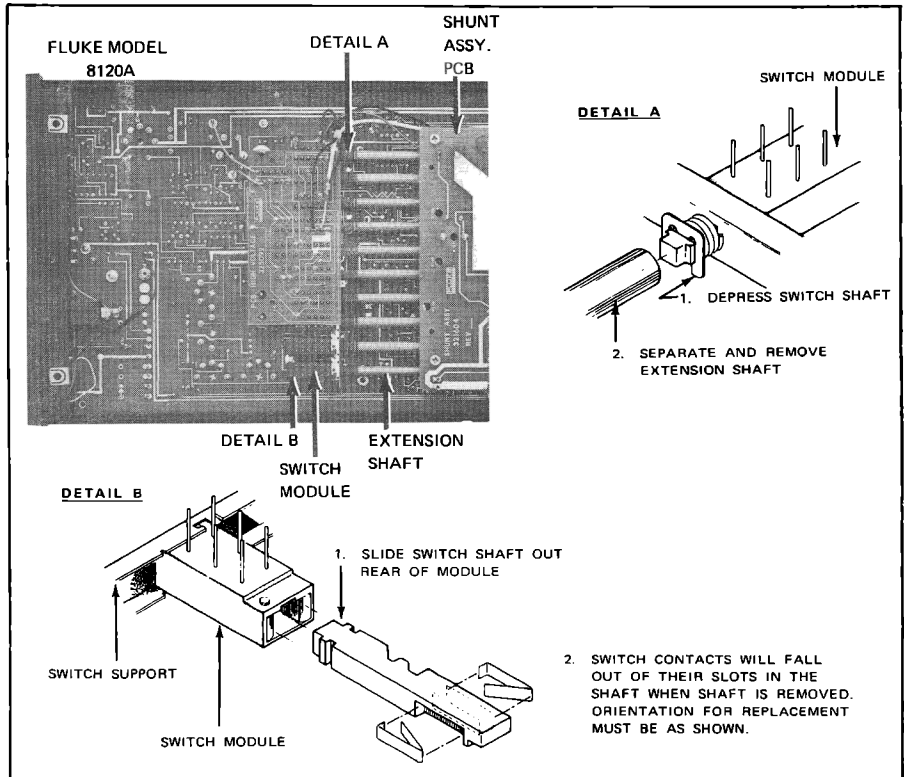

Figure 4-2. DISASSEMBLY OF REAR SWITCH MODULES
4-20. DISASSEMBLY OF REAR SWITCHES (Figure 4-2)
- a. Remove the extension shaft associated with the switch by depressing the switch shaft and removing the extension shaft as shown in Detail A, Figure 4-2.
- c. Remove the switch shaft by pushing it slowly out the back of the switch module. The moveable switch contacts will spring out of their slots in the shaft as this is done (see Detail B, Figure 4-2).
- b. For main pcb switches, remove the extension shaft associated with the defective switch by depressing the switch shaft and removing the extension shaft as shown in Detail A, Figure 4-2.
the pushbutton will have to be removed from the adjacent switch shaft also. The moveable contacts will spring out of their slots in the shaft as the switch shaft is removed (see Detail B, Figure 4-2).
- b. Remove extension shaft, spring retaining clip, spring and switch shaft from defective switch module (Figure 4-2).
- h. Remove switch shaft clip and switch shaft from defective module (Figure 4-2).
- b. Remove spring retaining clip, spring and switch shaft from defective module. (Figure 4-2).